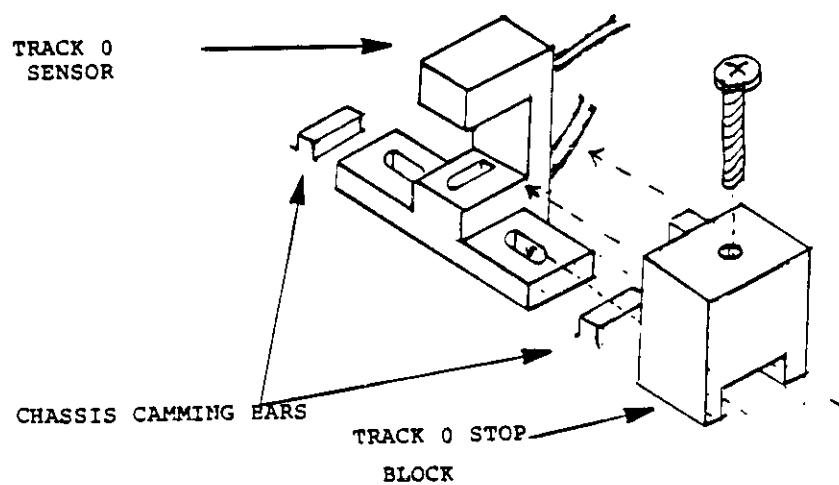

FIGURE 6-8
4. Remove two Number 1 Phillips screws from the Track 0 sensor (Figure 6-8).